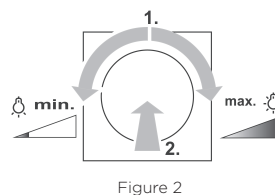

Figure 2
- Turn the setting knob by a quarter turn, then press the setting knob briefly: Light switches on at minimum brightness or maximum brightness (Figure 2).